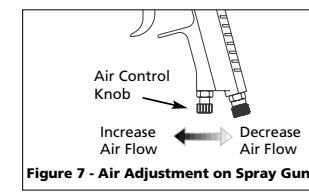

Figure 7 - Air Adjustment on Spray Gun
1. Adjust air pressure to the spray gun according to the recommendations supplied with the spray material. This air pressure usually falls between 40 - 60 PSI. Adjust air pressure with the trigger pulled and air control knob (if applicable) fully open. If reduced air pressure is desired for some areas of the spray job, use air control knob to reduce pressure as necessary (See Figures 7 or 8).